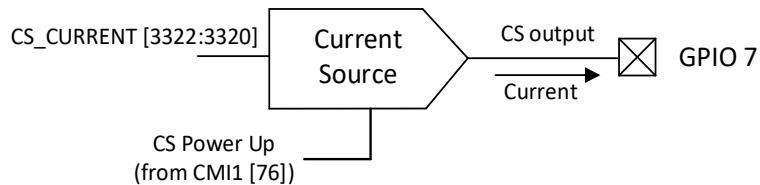

Figure 178. Current Source Structure
The Current Source (CS) is a macrocell that outputs (sources) a constant current to the load connected to GPIO7 (Figure 178). The current value is selected by a register CS\_CURRENT [3322:3320] and can range from 1  $\mu$ A to 100  $\mu$ A (1, 2, 5, 10, 20, 50, 100  $\mu$ A).